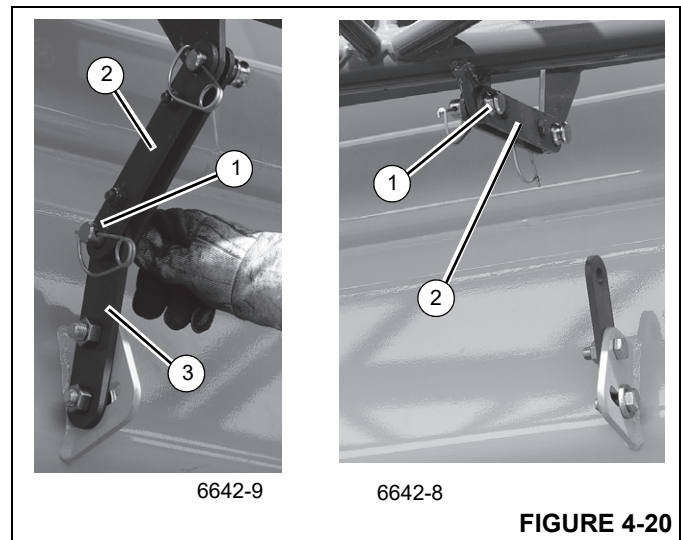
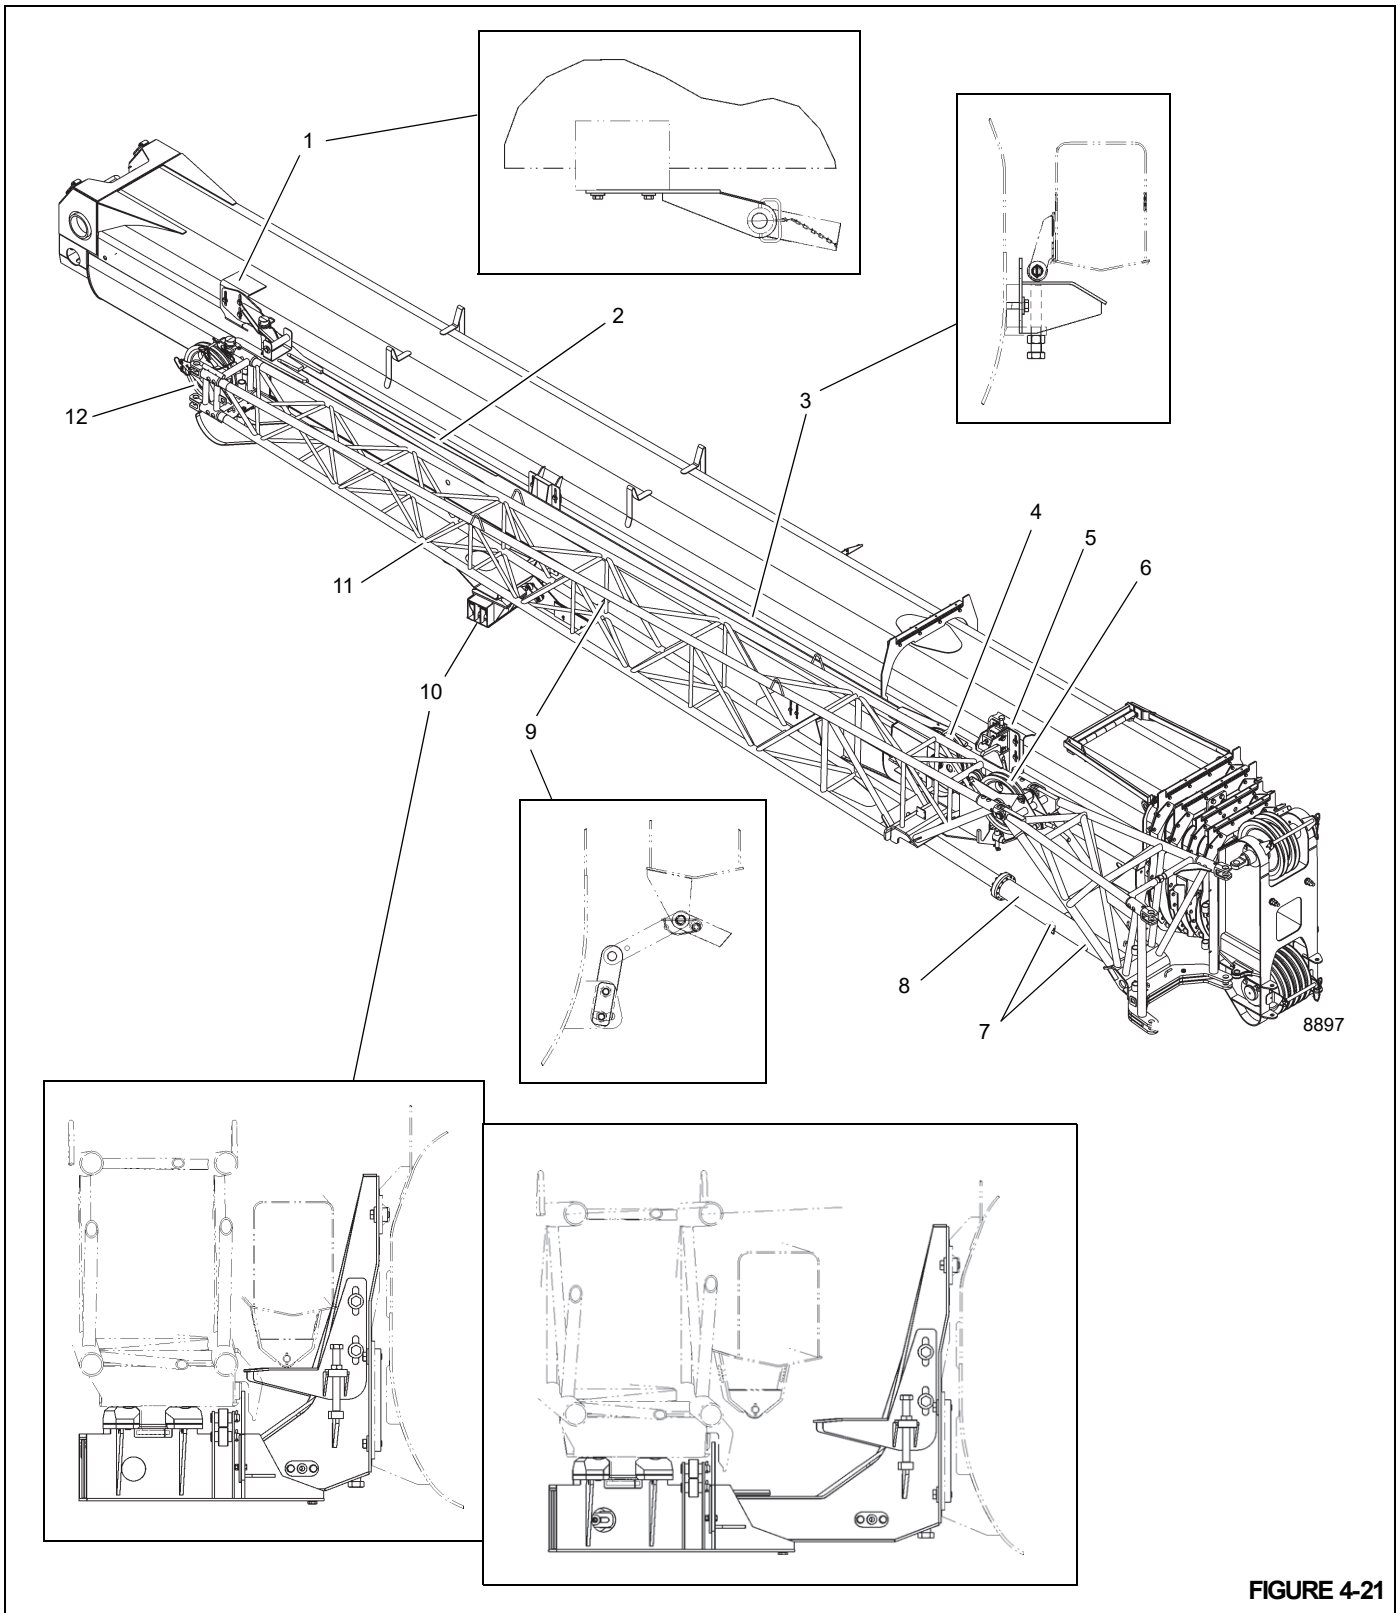

FIGURE 4-20
FIGURE 4-21
Remove the clip pin and cable retaining pin at the mast sheave (6, Figure 4-21), then remove the hoist cable. Reinstall cable retaining pins and secure with clip pins.
- e. Connect locking bar (9, Figure 4-21; 1, Figure 4-17) to boom extension base section attachment bar (2) using pin (3). Secure with retaining clip.
- 17. Extend boom approximately 12 in so boom extension base section stowage lugs will line up in front of the middle stowage bracket guide ramp (10, Figure 4-21) and stowage pins (14, Figure 4-21) on the front stowage bracket assembly (5, Figure 4-21) when the boom extension is positioned to the side of the boom base.
- 24. Secure boom extension base section to front stowage bracket (5, Figure 4-21) on boom base using lock hitch pin (13, Figure 4-21). Ensure lock hitch pin is pushed in all the way, then secure with retaining clip.
27. Using control pendant, fully retract middle stowage bracket (10, Figure 4-21).
28. Ensure the two stowage lugs on the boom extension base section are fully engaged with the pins (14, Figure 4-21) on front stowage bracket (5, Figure 4-21).
29. Secure boom extension fly section to rear stowage bracket (1, Figure 4-21) on the boom base using the attachment pin. Secure attachment pin with retaining clip.
31. Remove pin (1, Figure 4-20) from boom base attachment bar (3). Move locking bar (2, Figure 4-20; 10, Figure 4-21) to boom extension base section and install pin (1). Secure with retaining clip.
FIGURE 4-21 continued